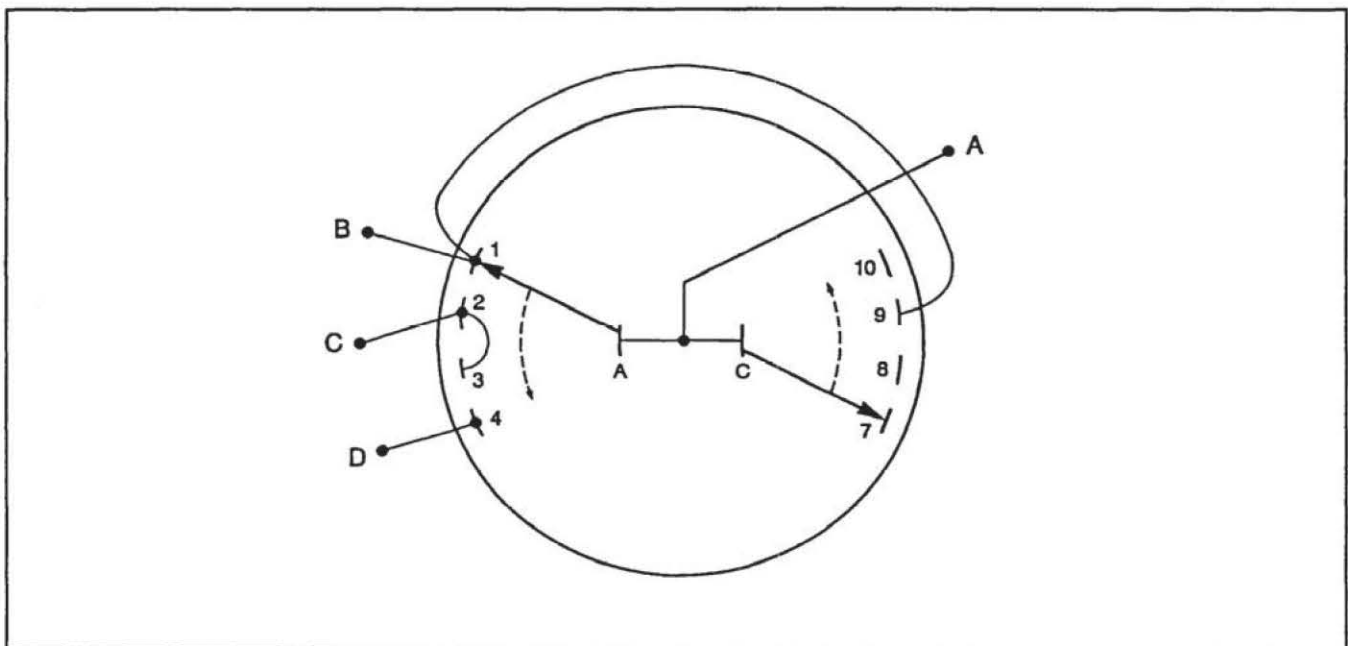
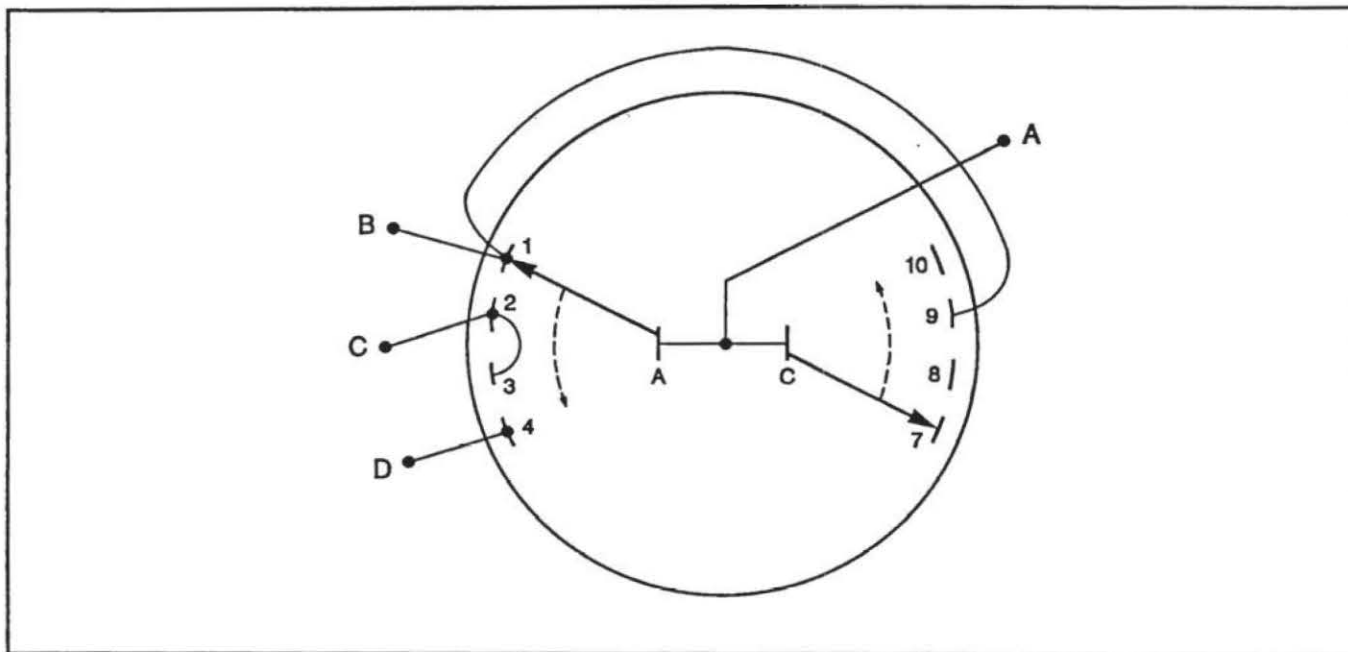

Figure 3.16 - Current sourcing remote memory switch (rear view)
Figure 3.17 - Current sinking remote memory switch
**NOTE:** When both the Rotary Select Switch and Keyed Lock Out Switch are installed, both must be connected as either sourcing devices or as sinking devices. Figure 3.16 shows the wiring for the Rotary Select Switch as a sourcing device. Figure 3.17 shows the wiring for the switch as a sinking device.
- **Switch Used as a Sourcing Device** - Use an 18-22 gauge wire (customer supplied) to make the connections shown in Figure 3.16. Make sure to install the jumper from PC40 connection P1-2 to P1-3.
Use an 18-22 gauge wire (customer supplied) to make the connections shown in Figure 3.17. Make sure to install the jumper from PC40 connection P1-3 to P1-8.